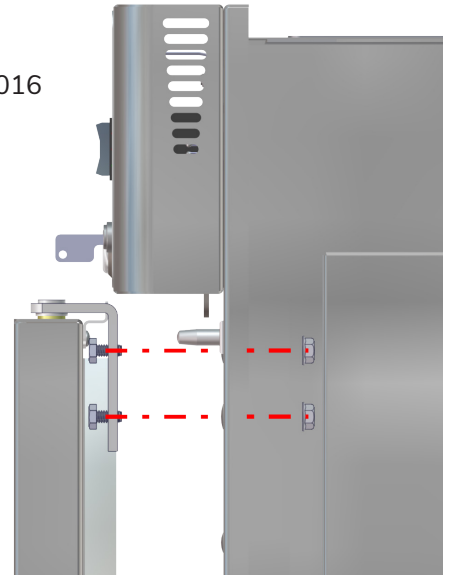

Fig. 58: <No intersecting link>
1. Loosen the nuts on the bolts that hold the top door hinge onto the unit. Hold the door as you remove the nuts so the door does not fall on you. Once the nuts are removed, the door can be leaned away from the unit and lifted off the bottom hinge (Fig. 58).